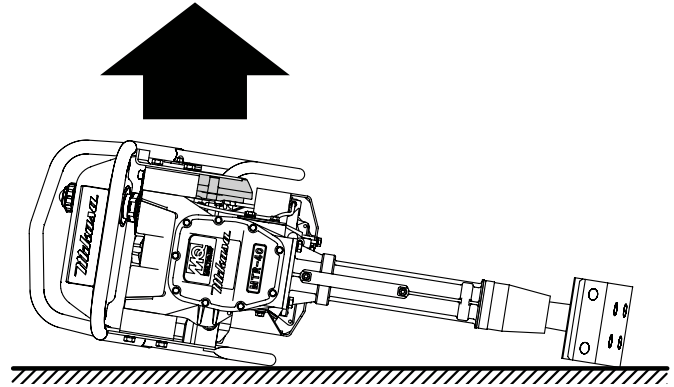

Figure 20. Transporting Rammer
4. Next, position the machine (Figure 20) so that the air cleaner will be facing up.